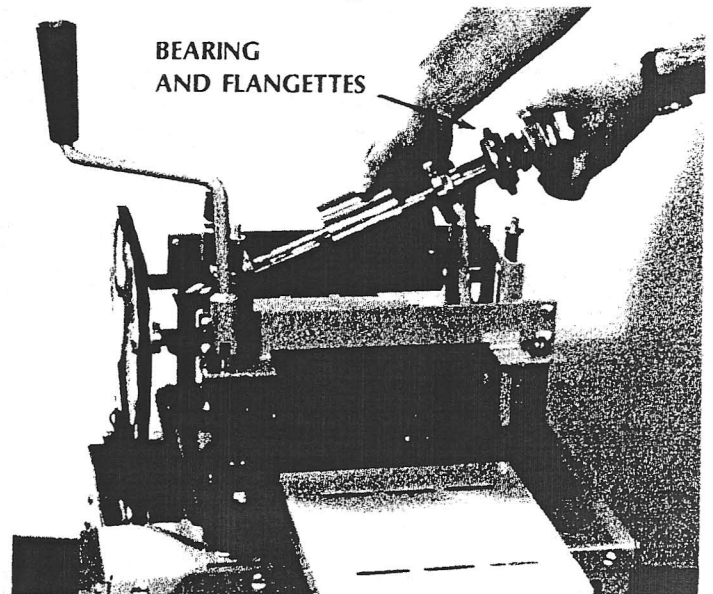

Fig. 16
10. Lower the drive pulley end of the molding head shaft with bearing and flangettes in place into the motor drive side of planer. (fig. 16)